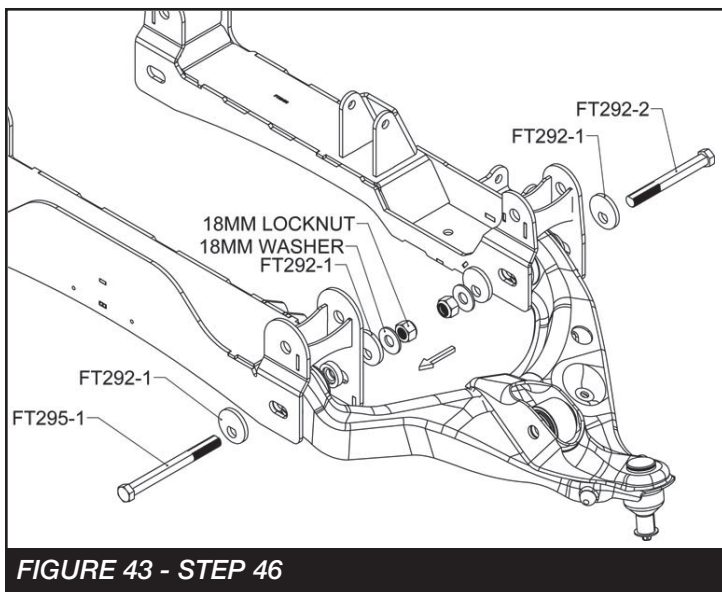

FIGURE 43 - STEP 46
46. Locate the Alignment cam kit (FT295). Locate the factory control arms. Install the lower control arms into the Fabtech crossmembers using the hardware in the cam kit (FT295). Torque the cam bolts at 200 ft-lbs after alignment. **SEE FIGURE 43**